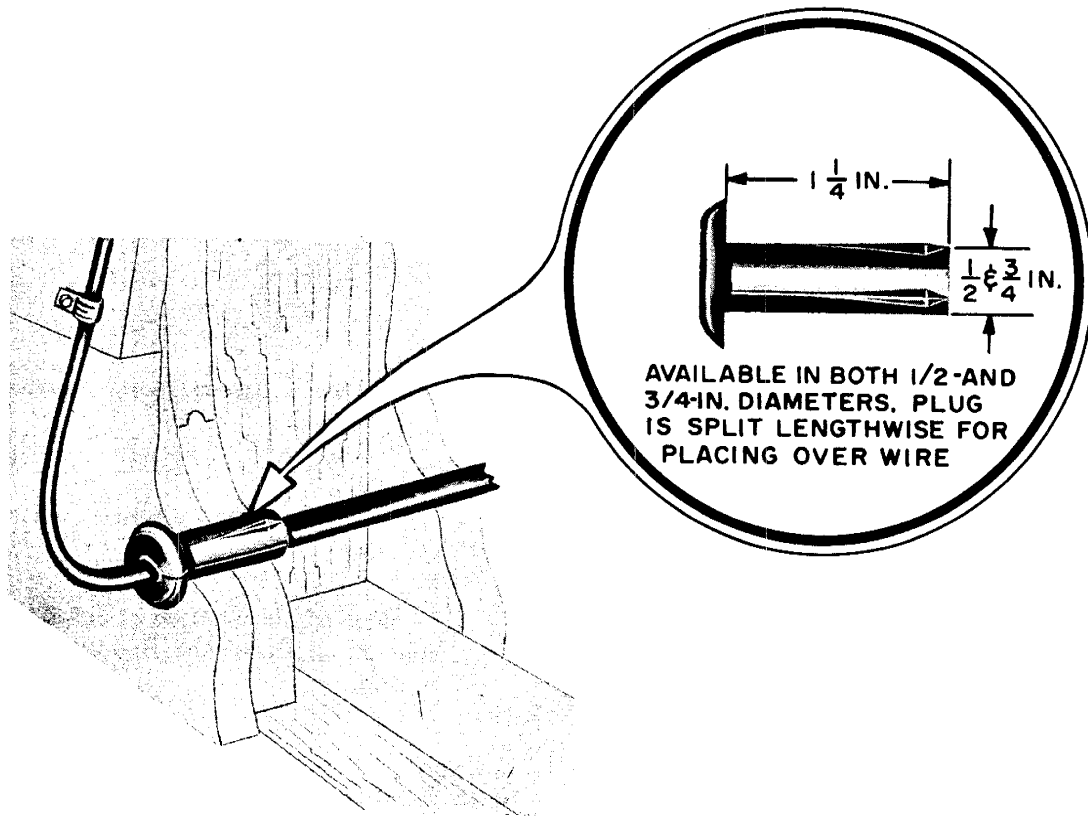

Fig. 19 - B Entrance Plug
**13.02** The B entrance plug (Fig. 19) is intended primarily for use with NP, C, or E drop wires and is furnished in  $\frac{1}{2}$ - and  $\frac{3}{4}$ -inch diameter sizes. This plug may be used: